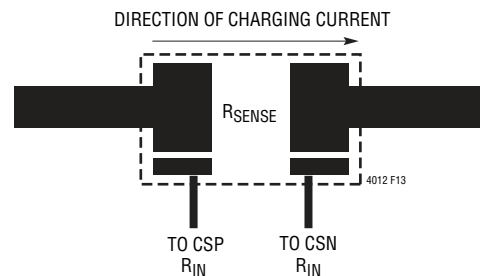

Figure 13. Kelvin Sensing of Charge Current
12. For best current programming accuracy, provide a Kelvin connection from  $R_{SENSE}$  to CSP and CSN. See Figure 13 for an example.